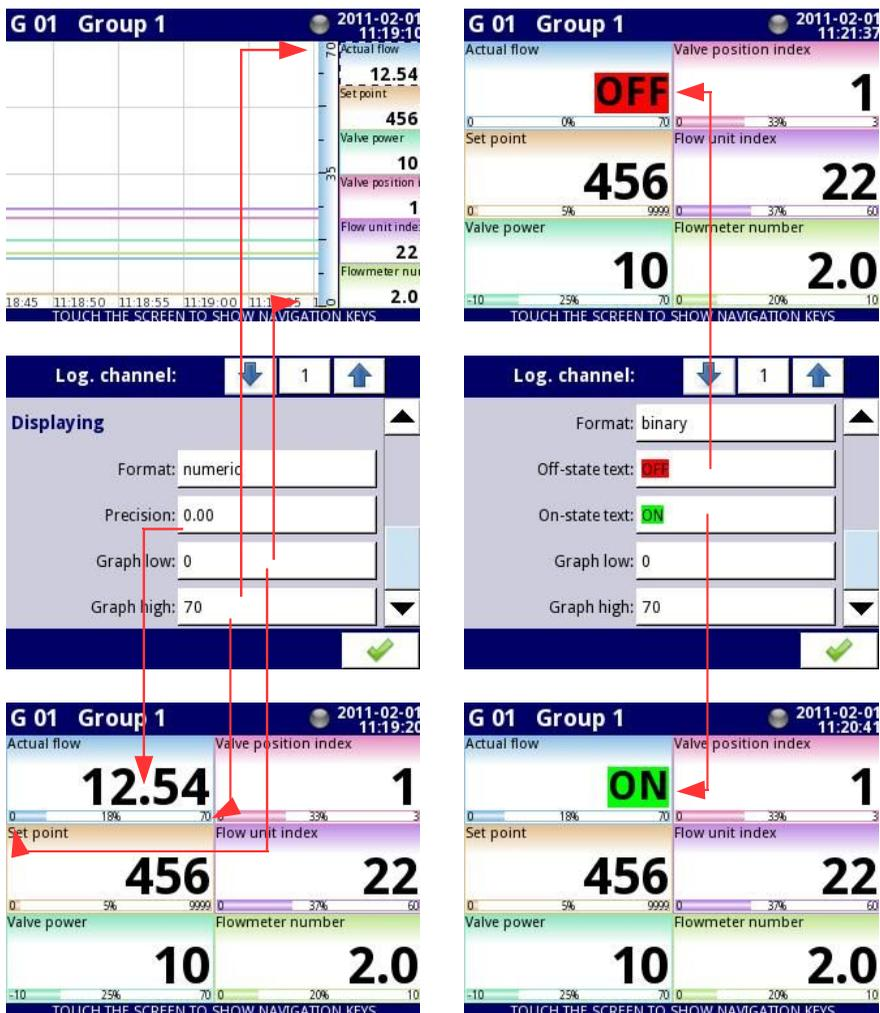

Fig. 7.40. Input channels menu – 2 different kinds of Displaying parameters
- **Precision** – this parameter occurs when the **Format** parameter is set as **numeric** or **time**, which specifies the precision to be displayed on the output value (see **Fig. 7.40**),
- **Graph low** – the minimum range value for graphs, bars, needle dials and percentage bars (see **Fig. 7.40**),
- **Graph high** – the maximum range value for graphs, bars, needle dials and percentage bars (see **Fig. 7.40**),